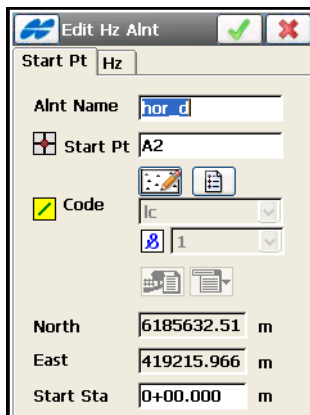

Figure 7-6. Edit Horizontal Alignment
2. On the **Start Pt** tab of the **Edit Hz Alnt** screen (Figure 7-6), enter the alignment name and Start Point, the Code, the North/East coordinates, and the Start Station number (or the starting chain distance).